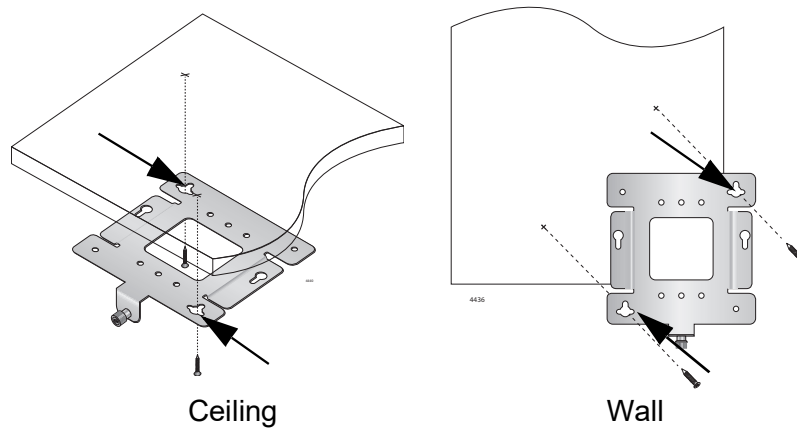

Figure 8. Mark and Pre-Drill Holes for Key-Hole Slots
- Using the mounting bracket as a template, mark the two key-hole slots with a pencil in the location and orientation where you want to install the access point. Refer to the arrows in Figure 8.